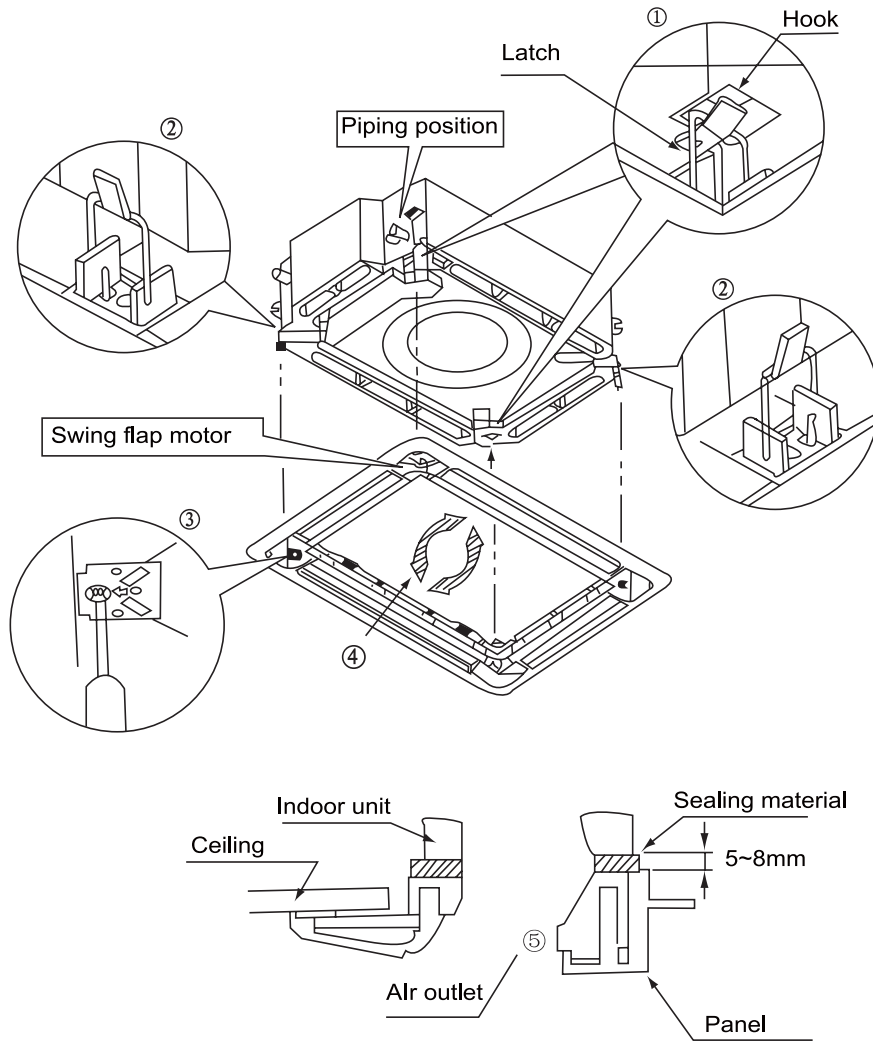

Fig 4
- ◆ Set the panel to the indoor unit body by matching the position of the swing flap motor of the decoration panel to the piping position of the indoor unit as shown in fig.4.
4. Adjust the panel by turning it to the arrowed direction in Fig.4 so that the ceiling opening is completely covered.